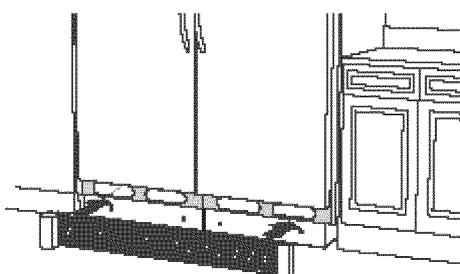

Figure 18
- Attach metal toe grill (F) using the screws saved during removal of the plastic grill panel(s). It may help to **open door of each unit** to aid alignment of screws. Run screws through the left-most and right-most grill holes and tighten until slightly snug. **Adjust so the top of toe grill is parallel with the bottom of both door(s). For a dual unit installation, install two inner screws.** Tighten all screws. See Figure 18.